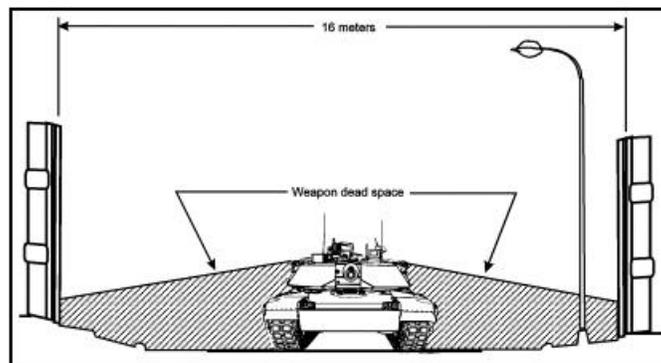

Figure 4. Tank weapon dead space at street level.
- Figures 4 and 5 illustrate the dead space associated with tank operations in an urban environment.